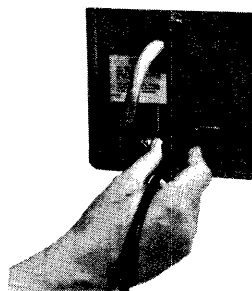
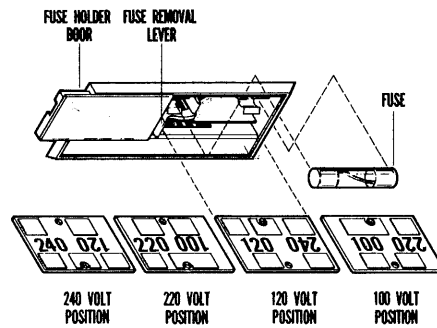

Fig. 2-7 Power Cord Receptacle
Fig. 2-8 Power Switching Card
4. Slide the plastic shield at the main power socket to the left (Figure 2-7). Remove the voltage switching card. Make sure the voltage switching card is inserted correctly for your line voltage. This card is designed for four primary voltages as shown in Figure 2-8. The card must be plugged so you can read your voltage with the card in the slot. Plug the card back into the slot. If the card was plugged incorrectly for the voltage you ordered, call Intel or your supplier, you may have a diskette drive and CRT of the wrong voltage. Also check the voltage sticker on the front of the diskette drive to make sure it matches the voltage of the system.